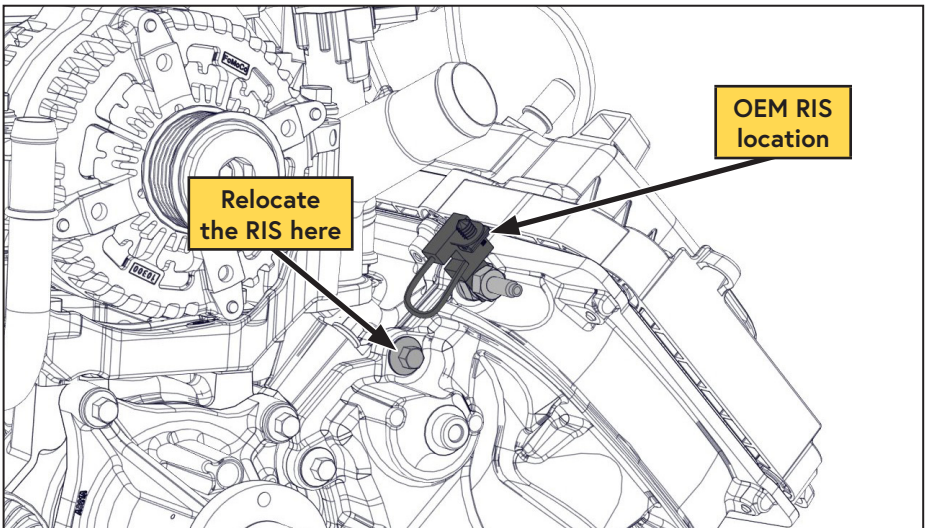

Figure 8 — RIS relocation
- ☐ Relocate the Radio Interference Suppressor (RIS) to the fasteners directly above the idler (Figure 8).